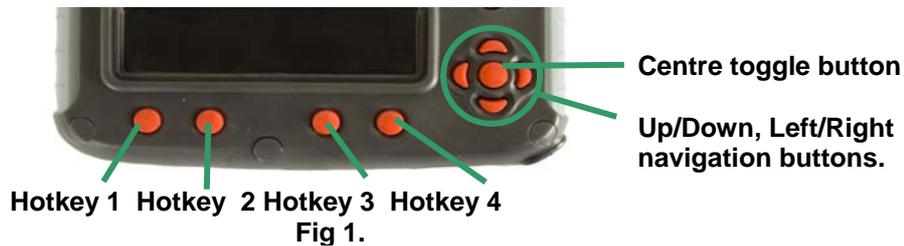

Fig. 2
2. Using the left/right navigation buttons  move to the Measurement Options menu  (See Fig 2) and Press Hotkey 3  to select it (Fig 3).